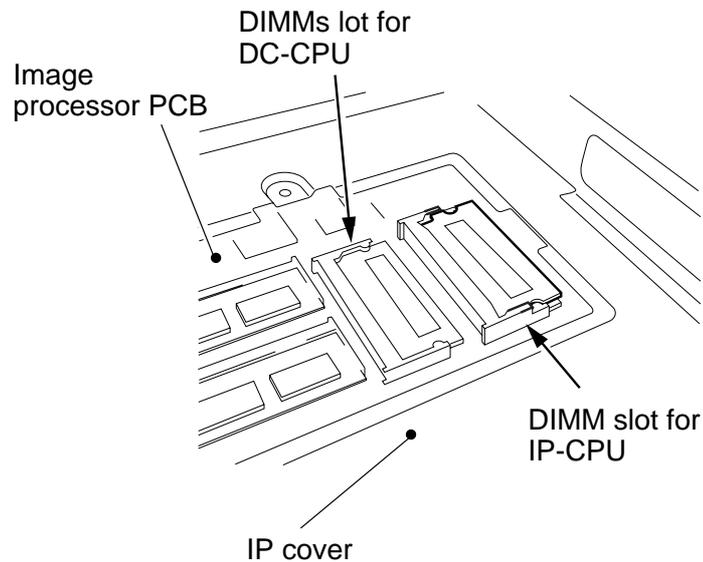

Figure 14-701
The DIMM (flash ROM) used in the machine comes in two types; both types are mounted on the image processor PCB. Figure 14-701 shows a view in which the IP small cover has been removed:
- 1) Check the DIMM slot on the IP PCB. The wrong slot can cause malfunction; pay attention. (Figure 14-701)